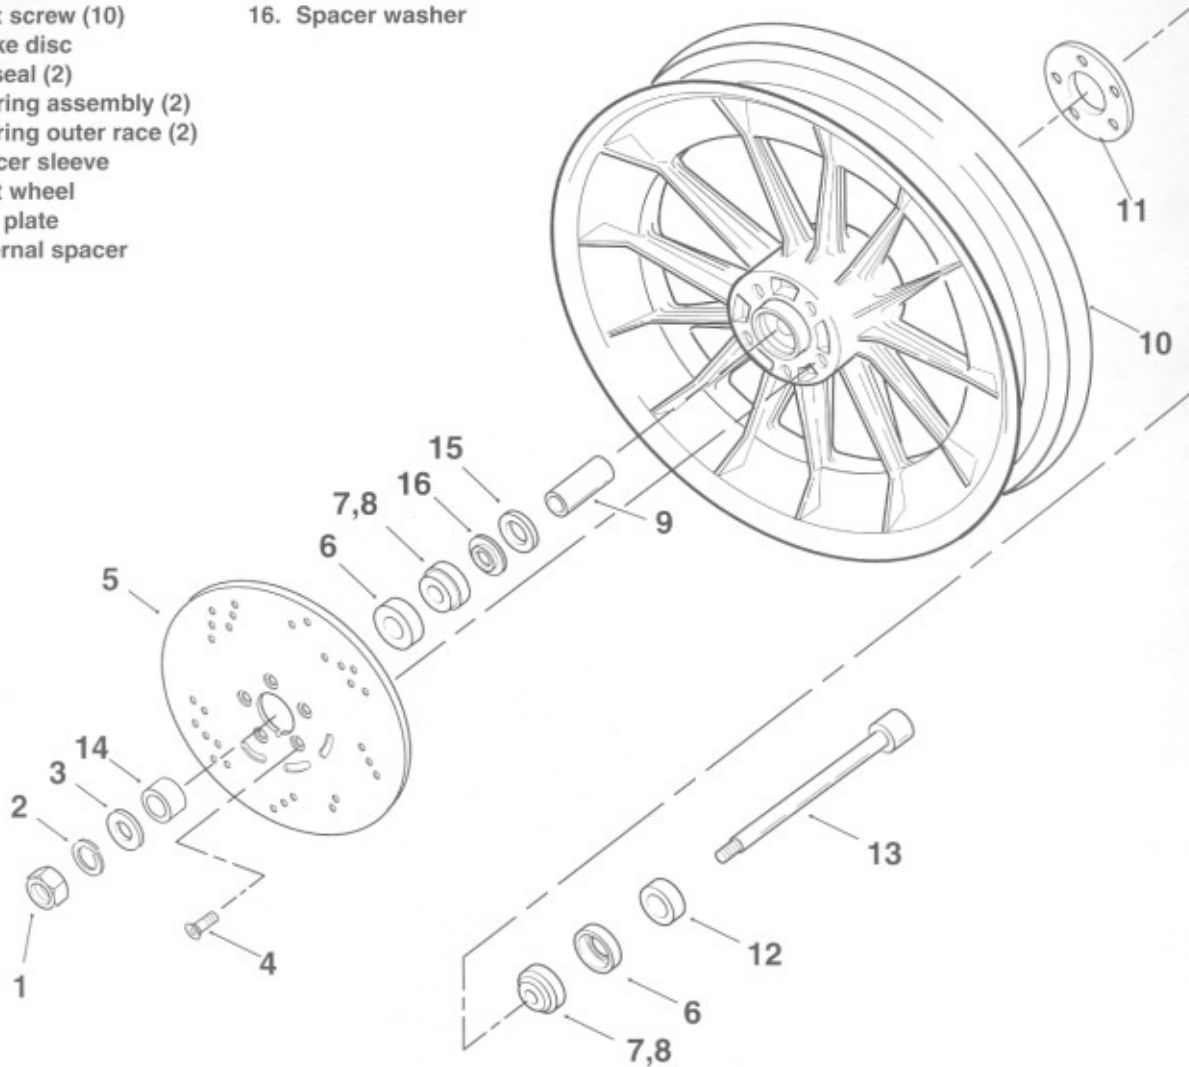
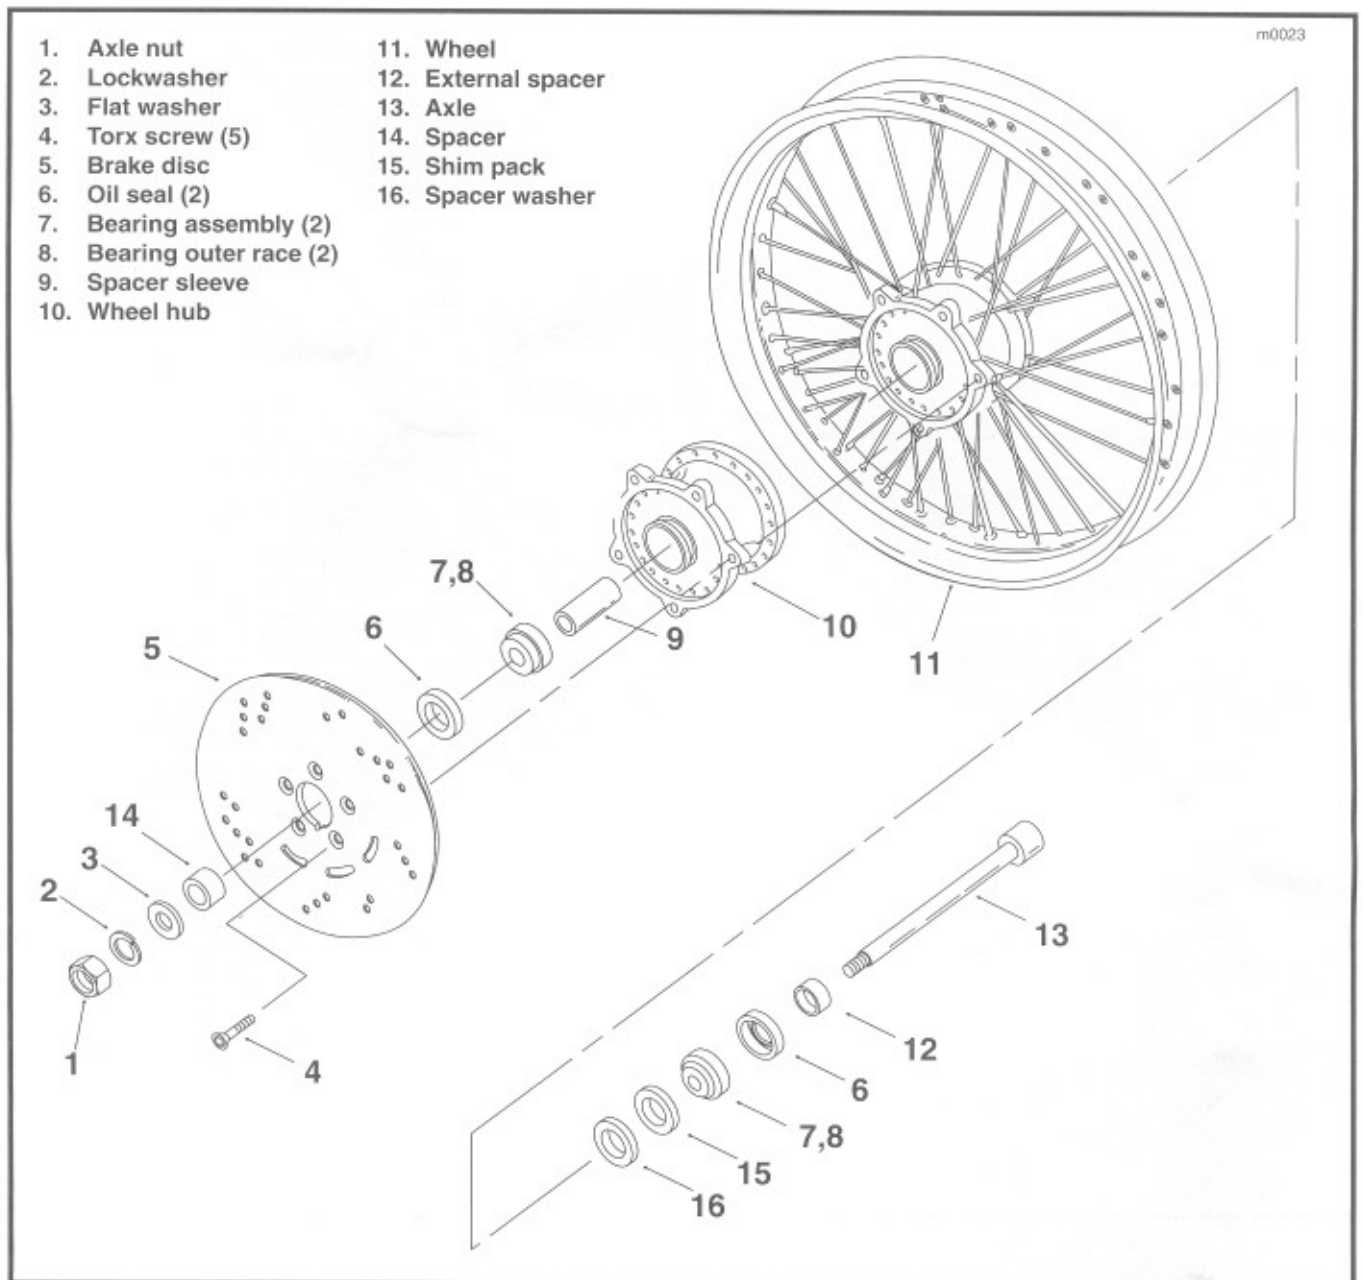

Figure 2-3. Cast Front Wheel
Figure 2-4. Laced Front Wheel
DISASSEMBLY (Figure 2-3, Figure 2-4)
ASSEMBLY (Figure 2-3, Figure 2-4)
- Verify that the brake disc is thoroughly clean. Install disc on hub aligning notch in disc with 1/4-in. (6.35 mm) diameter hole in hub. Secure disc with **new** T-40 TORX screws (4). Tighten screws to 16-24 ft-lbs (22-33 Nm) torque.
- On cast wheels (Fig. 2-4), install hub plate (11) to wheel hub using **new** T-40 TORX screws, if removed. Tighten screws to 16-24 ft-lbs (22-33 Nm) torque.
- If removed, press outer races (8) into each side of hub using WHEEL BEARING RACE REMOVER/INSTALLER (Part No. HD-33071A). Apply a liberal amount of bearing grease to bearing outer races after installation.
- Apply a liberal amount of bearing grease to bearing inner races (7). Pack grease into cavities around rollers. Use of HD-33067 Wheel Bearing Packer is recommended.